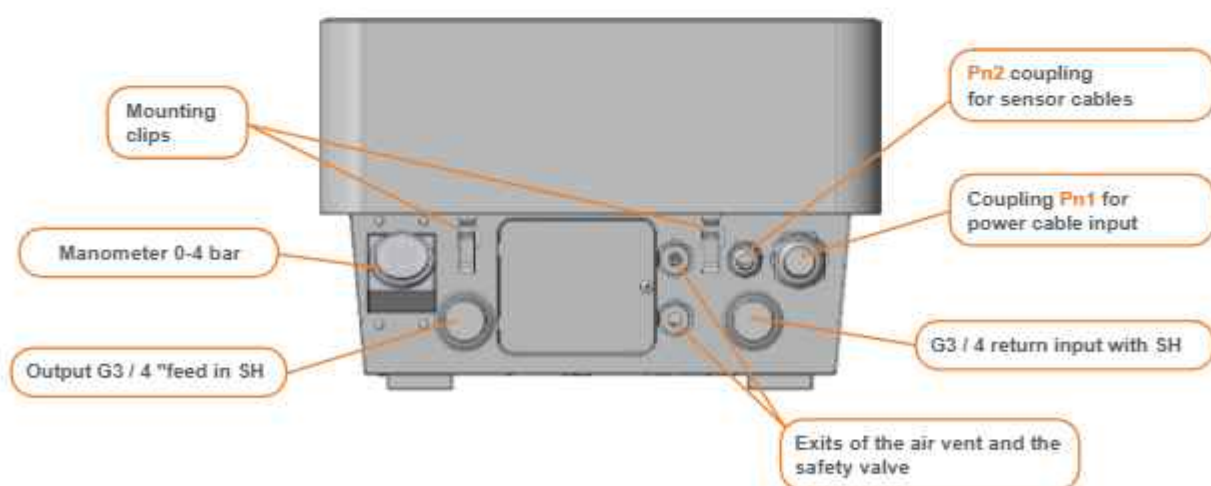

Figure 2 - Boiler connection panel (boiler view from below).
5.1.7 To remove the front panel, unclip the mounting clips at the bottom of the boiler body (see Figure 2), lift the panel upwards, gently pulling on itself. Disconnect the display connection cable without abrupt movements while holding the canopy panel. Then move the front panel to the side.